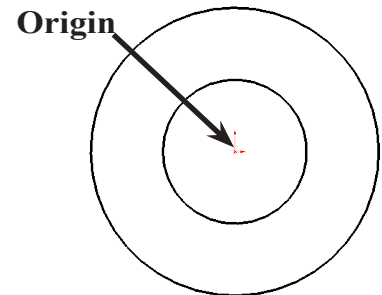

Fig. 2
- Step 3. Click **Circle**  (S) on the Sketch toolbar.
- Step 4. Draw two circles starting at the Origin , **Fig. 2**.